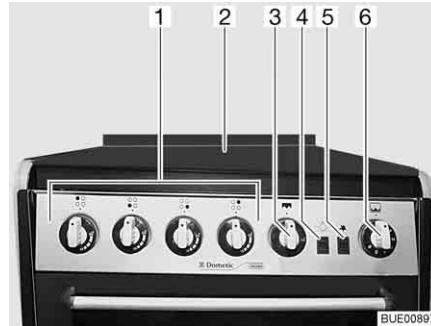

Fig. 164 Gas cooker with oven and grill
- Open the gas cooker lid (Fig. 164,2).
- Turn the control knob (Fig. 164,1) on the burner you wish to use to the ignition position (large flame).
- Press the lighting knob (Fig. 164,5) until there is a flame.
- ▷ The switch (Fig. 164,4) is used to turn the oven light on and off.
- Lightly press the control knob (Fig. 164,3) and turn to lighting position (large flame).
- Press the control knob (Fig. 164,6) slightly and turn it to an ignition position between 1 and 6.